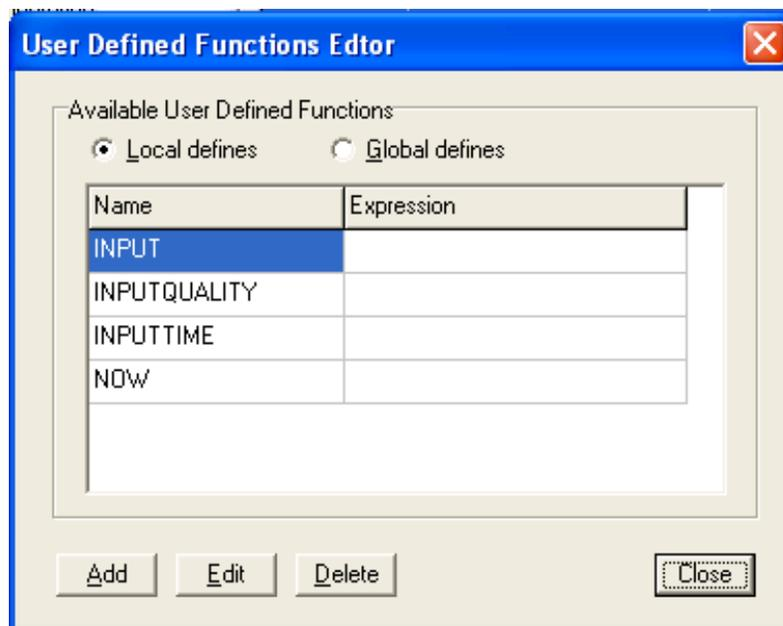

Figure 25 - User Defined Functions Editor
- If required, from the **Select variable** window, click on the **Modify variables** button to access the **User Defined Functions Editor** (Figure 25) which allows you to add, change, or delete variables.